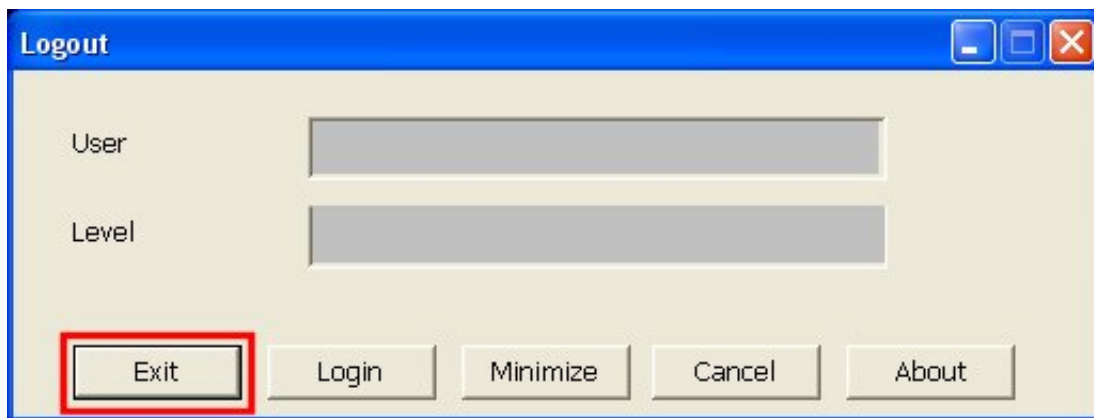

Figure 159. AAR – Logout Window
5. Logout out of the session by clicking [EXIT] (Figure 159).